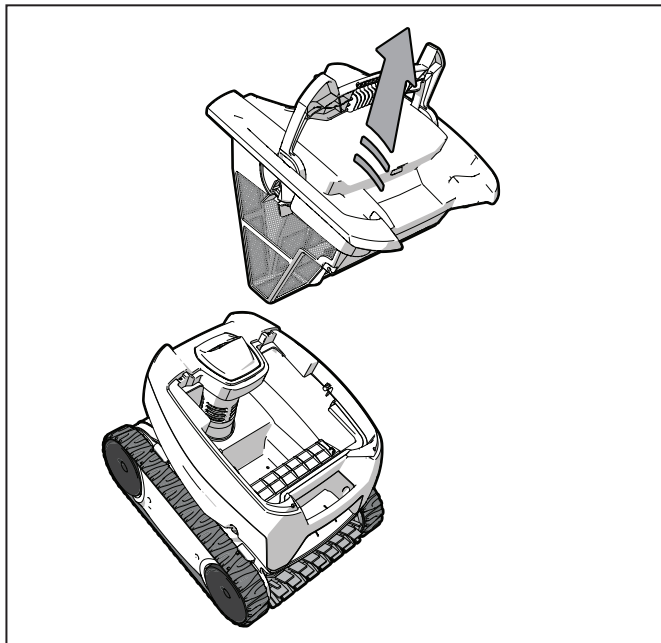

Figure 10. Remove the Filter Canister
3. Grasp the handle and lift up to remove the filter canister (Figure 10).